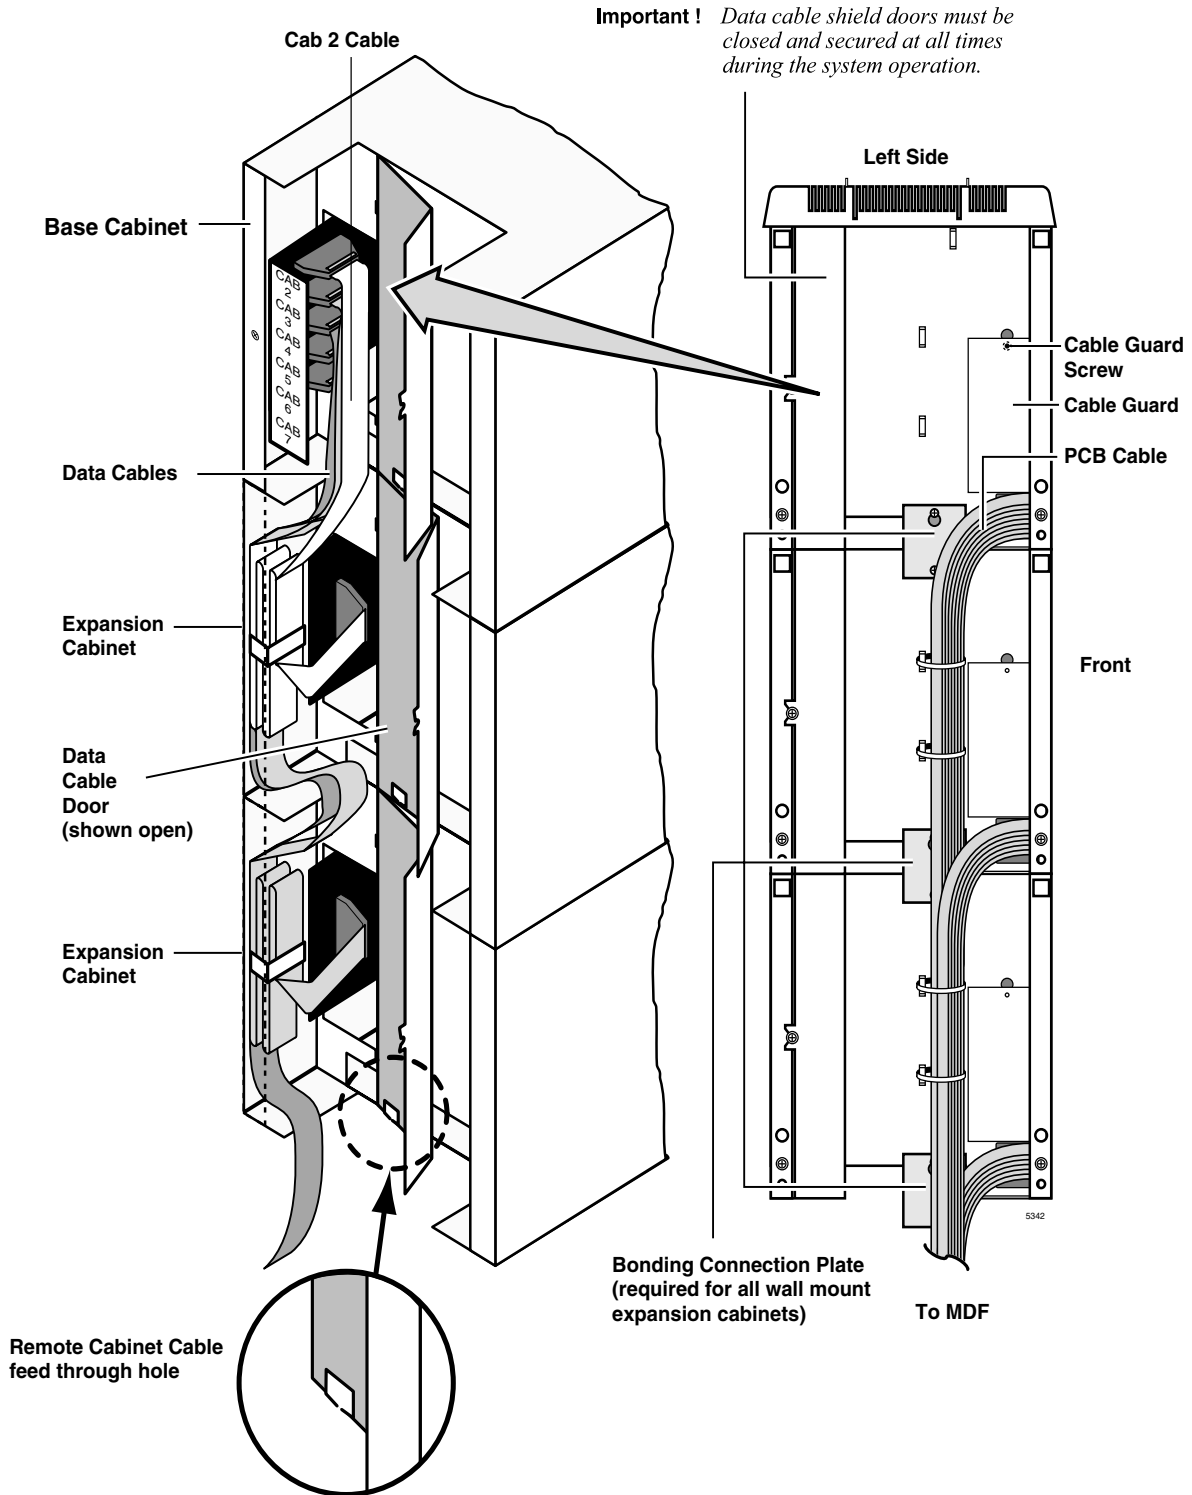

Figure 4-9 Data Cables Shown in Cabinet Interior—Side View
5. Loosen the bonding connection plates fastened on both sides of the first Expansion Cabinet (see Figure 4-9) then fasten the plates between the Base Cabinet and the first Expansion Cabinet. Repeat to connect the first Expansion Cabinet to the second Expansion Cabinet, etc.
1. After mounting the CTX670 cabinets, install the data cables. Then, install the bonding plate per Figure 4-9.
If the CTX670 system consists of more than one cabinet, you must install the bonding connection plates that come attached to each expansion cabinet. Refer to Figure 4-9. Connect the mother board ground wires and the intercabinet ground wires per Figure 4-11.